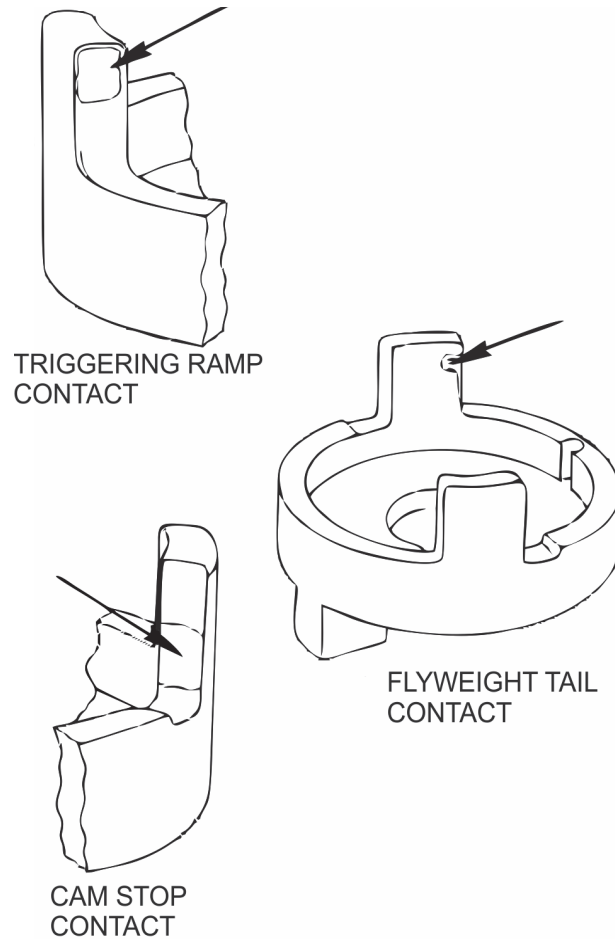

Figure 7-7. Impulse Coupling Body Wear Points
7. Inspect impulse coupling trip dogs (46) for grooves worn by the tail of flyweight or wear at the triggering ramp or cam stop contact areas (Figure 7-7). If either ear shows a perceptible groove or a ridge can be felt when a fingernail is drawn across the surface, reject the impulse coupling body.